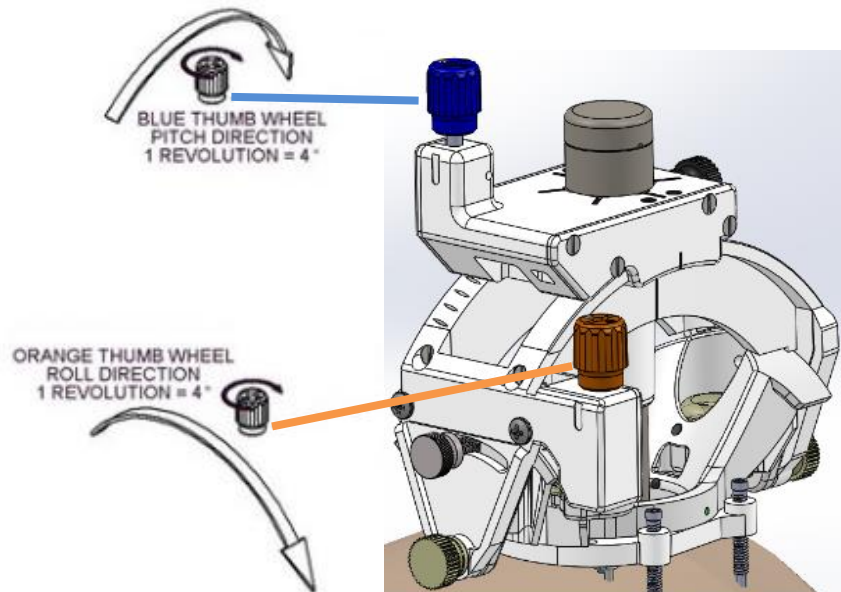

Figure 20: SMARTFrame Array Thumbwheel Directions
2. The thumb wheels are color coded: Pitch is Blue, Roll is Orange. **See Figure 20.**